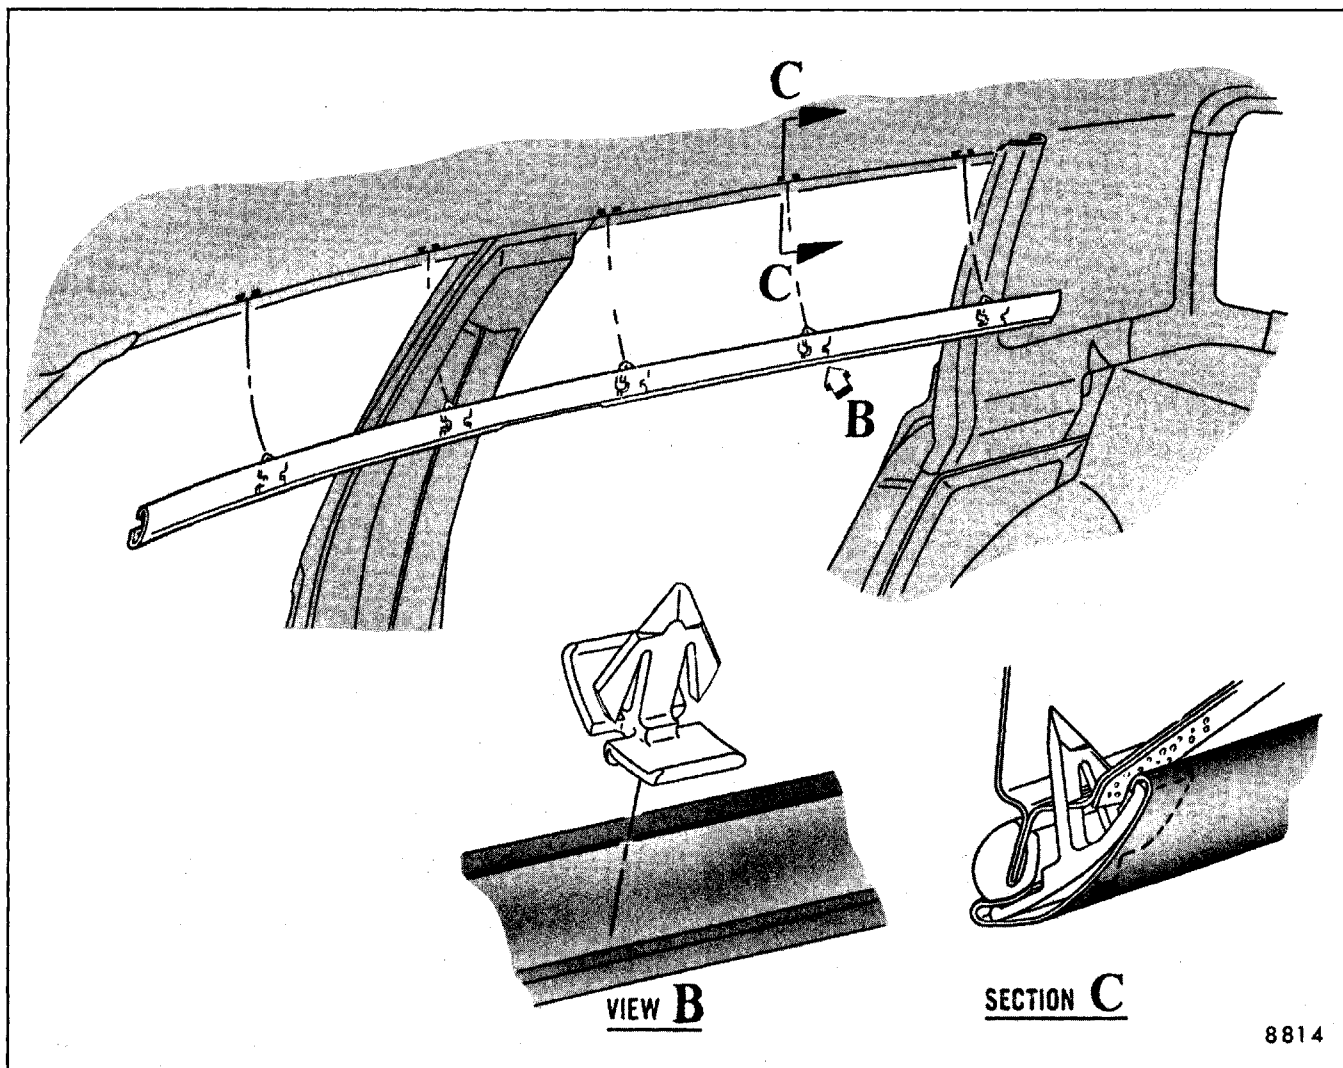

Fig. 8-22 - Side Roof Garnish Molding Attachment - K Styles
2. On A,B and C styles, grasp molding and pull down while rotating molding inboard to disengage from headlining retaining clips. On K styles, refer to Figure 8-22.